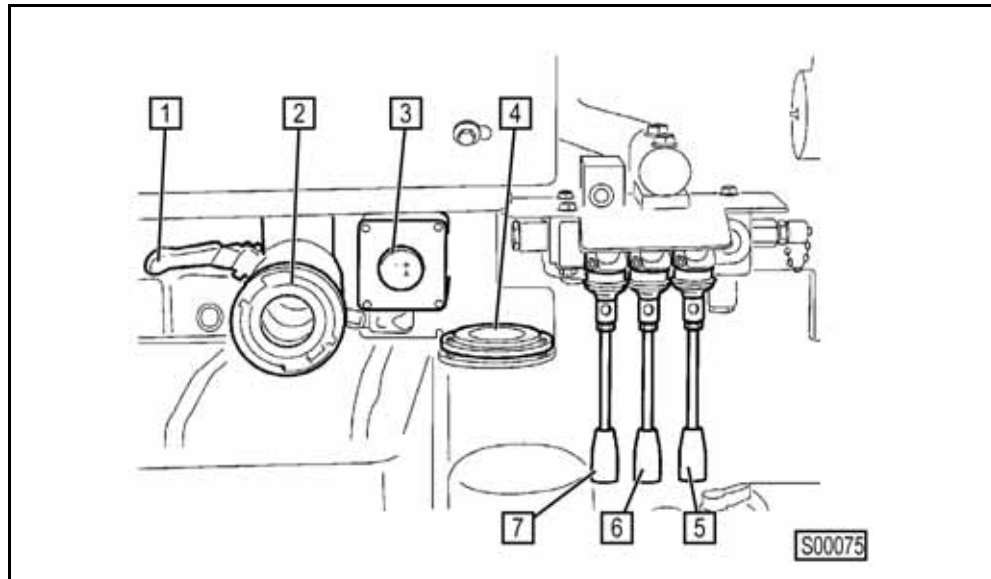

Fig. 190 Open the drain cock on the water case
Do not forget to fill the water case and to open the ball valve (6) (**Fig. 190**) in the suction pipe before switching on the water pump or the high-pressure cleaning system (special equipment).
- Open the drain cock on the water case (1) (**Fig. 190**) to empty the water case.